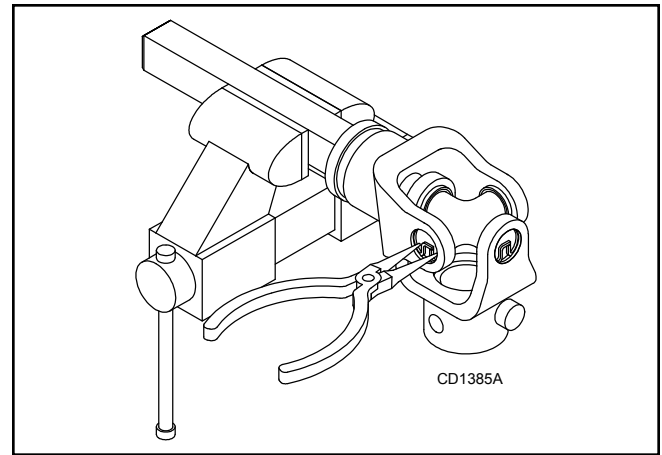

Figure 17.
1. Remove external snap rings from yokes in four locations as shown in Figure 17.